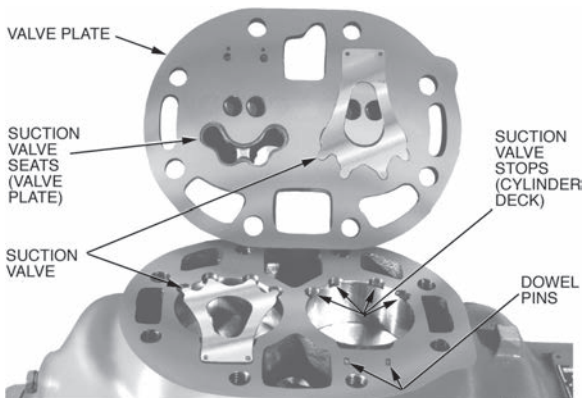
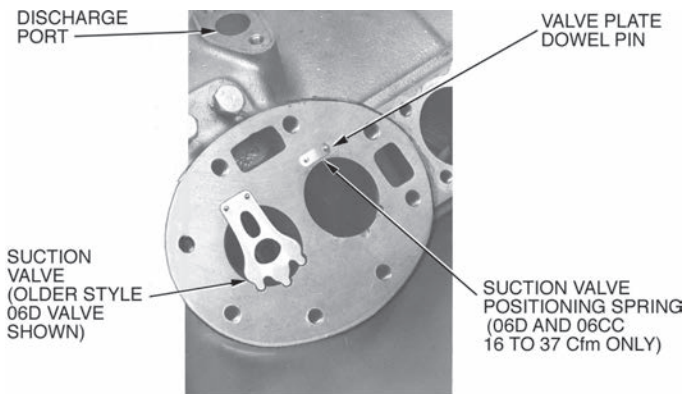

**Fig. 4 — Valve Plate Removed
**Fig. 5 — Suction Valve and Positioning
4. Pry up along sides of valve plate to remove valve plate from crankcase. This provides access to suction reed valves (see Fig. 4). Remove suction valves from dowel pins. On 06D and 06CC (16 to 37 Cfm) compressors, also remove the suction valve positioning springs (see Fig. 5).
1. If reassembling existing components, do not interchange valves or turn them over. They must be reassembled in their original position. Install the suction valve positioning springs (06CC size 16 to 37 Cfm and 06D compressors only) on dowel pins. Assemble positioning springs with spring ends bearing against cylinder deck (Fig. 5), spring bow upward.